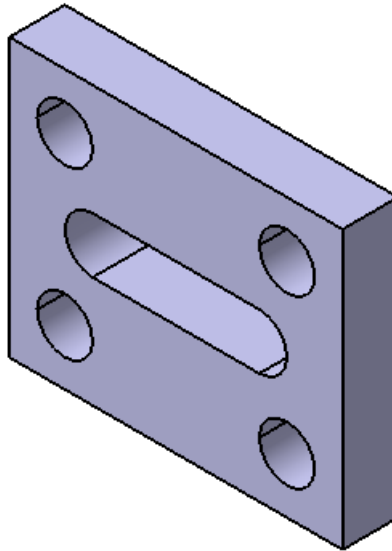

Figure 2-73 The final model for Tutorial 2
4. Orient the view of the model to the isometric view using the **Isometric View** tool from the **View** toolbar. The model after creating the extruded feature is shown in Figure 2-73.